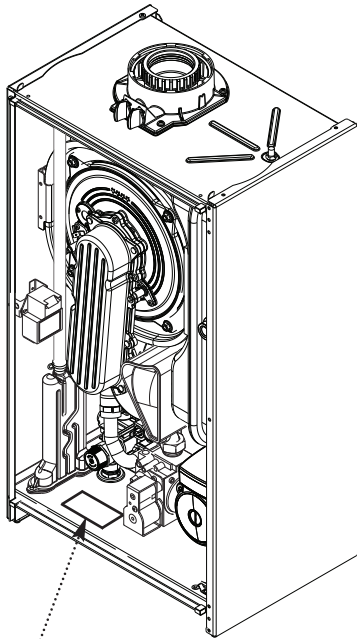

Fig. 6 Data Badge
1. The boiler data badge gives details of the model, serial number and Gas Council number and is situated on the boiler lower panel. It is visible when the control box is lowered (Fig. 6).